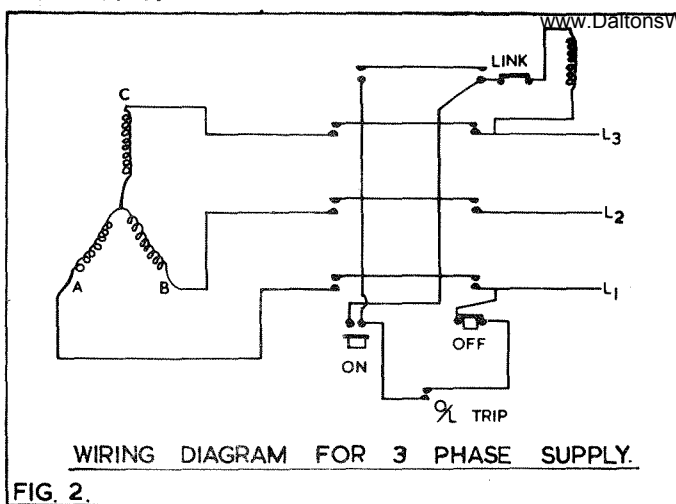
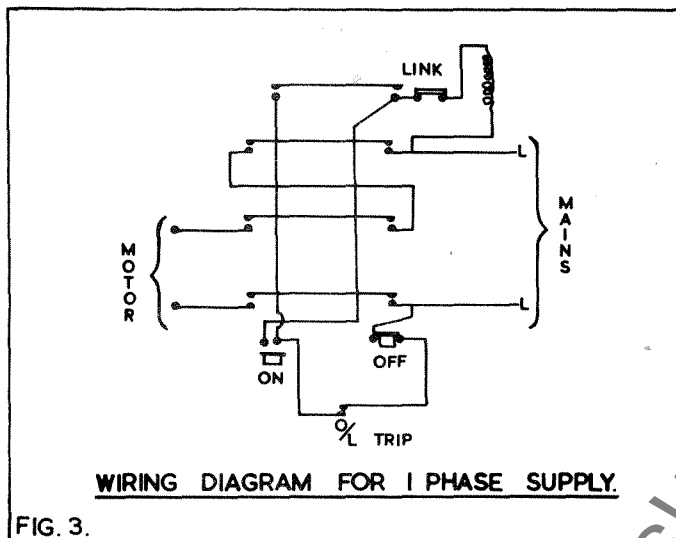

FIG. 2.
FIG. 3.
4. Connect the line leads to the appropriate terminals. See Fig. 2 for three phase supply. See Fig. 3 for single phase supply.